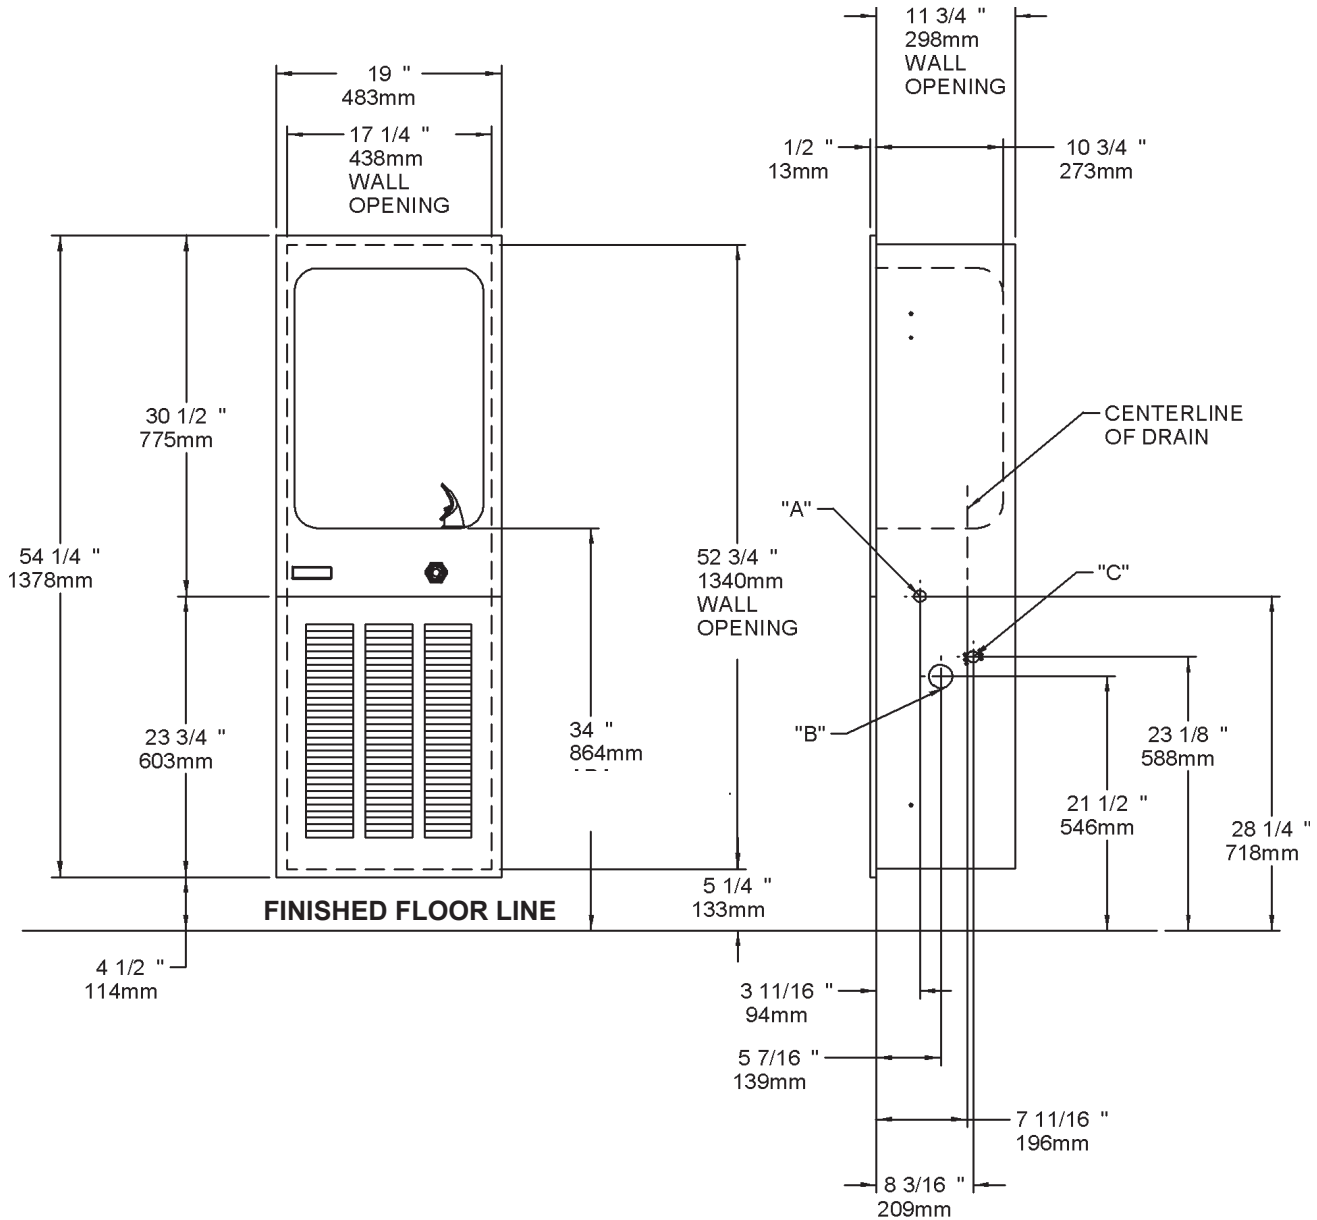

FIG. 1
2. **Fasten** mounting box into wall cutout using screws or bolts (provided by others) through the holes or knock outs provided on each side of the mounting box. (See Fig. 1 or 2)